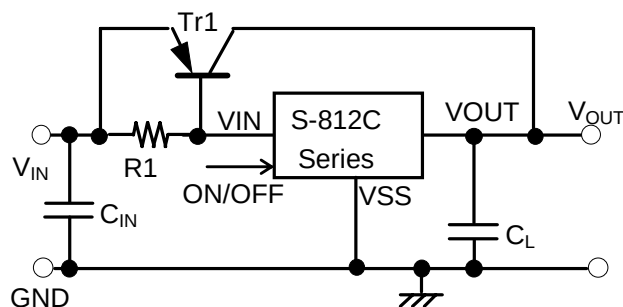

Figure 11 Output Current Boost Circuit
As shown in Figure 11, the output current can be boosted by externally attaching a PNP transistor. The S-812C controls the base current of the PNP transistor so that the output voltage  $V_{OUT}$  becomes the voltage specified in the S-812C if the sufficient base-emitter voltage  $V_{BE}$  to turn on the PNP transistor is obtained between input voltage  $V_{IN}$  and S-812C power source pin VIN.
- As the transient response characteristics of the circuit shown in figure 11 is not enough in some applications, evaluation for output variation due to power-on, power line variation and load variation in actual condition is needed before massproduction.